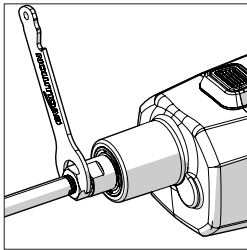

Fig. 2
**Note:** The machines arbor (**Fig. 2**) projects from the motor unit, and has two flats machined on it to accommodate the supplied spanner. The internal hole in the arbor contains a  $\varnothing 14$  mm thread. This internal thread matches the external  $\varnothing 14$  mm thread found on the mixing paddle shaft. The mixing maddle should be screwed into the machines arbor and securely tightened.